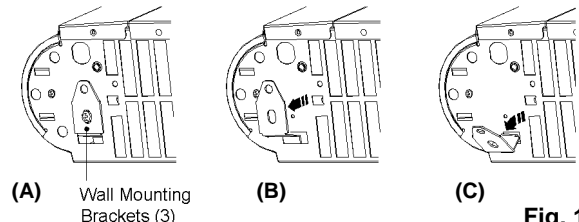

Fig. 1
Following the sequence in Fig. 1 – identify and remove the fixing screw securing the brackets located beside Mains Cable as shown in (A), then pull out brackets and rotate them to disengage them from the slot (B). Withdraw the brackets from the slot (C).